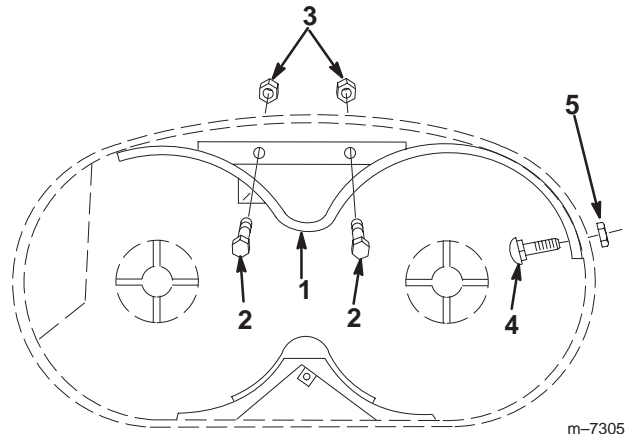

Figure 4
7. Position the front baffle on the deck and align holes. Secure the baffle using two bolts (3/8 x 7/8 inch) and two locknuts (3/8 inch) as shown in Figure 4.
8. Secure the side of the front baffle with a carriage bolt (5/16 x 3/4 inch) and lock nut (5/16 inch). Nut must be on the outside of the deck (Fig. 4)